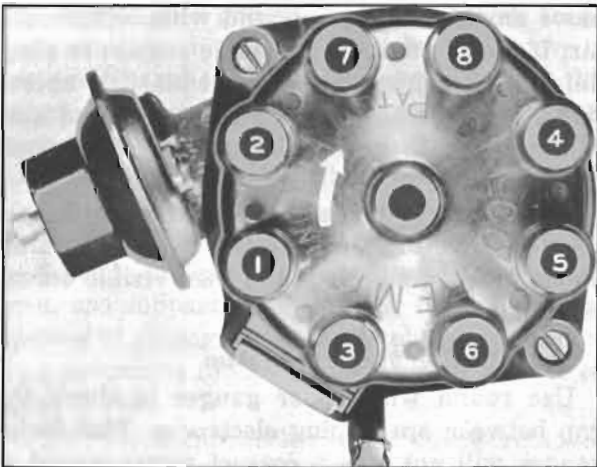

Figure 10-44—Installing Spark Plug Wires in Cap
5. Install distributor cap. Make sure that spark plug wires are correctly installed in distributor cap, through clips on rocker arm covers, and on spark plugs. See figure 10-44.
No. 1 spark plug wire is installed in the distributor cap terminal just forward of the vacuum advance unit. The other wires are then installed in a clockwise direction according to the firing order, 1-2-7-8-4-5-6-3. See figure 10-44.